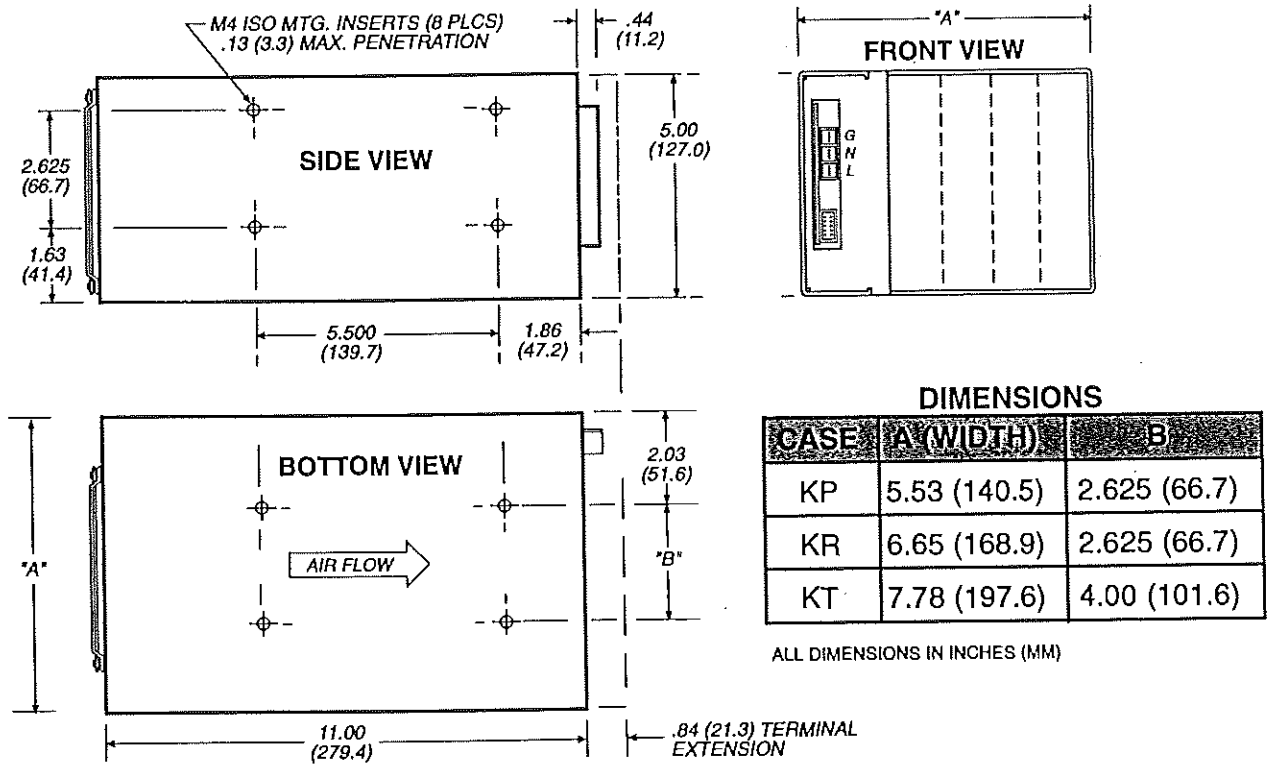

Figure 6. Mechanical Dimensions.
- 13.1 **Mounting.** See Mechanical Dimensions diagram, Fig. 6. The UNIMOD K Series has two mounting surfaces, one on the bottom and the other on the side, with four threaded mounting inserts on each. The inserts accept M4 screws with maximum penetration of 0.13 inch (3.3mm). Maximum torque on the mounting screws is 19 in.-lbs.